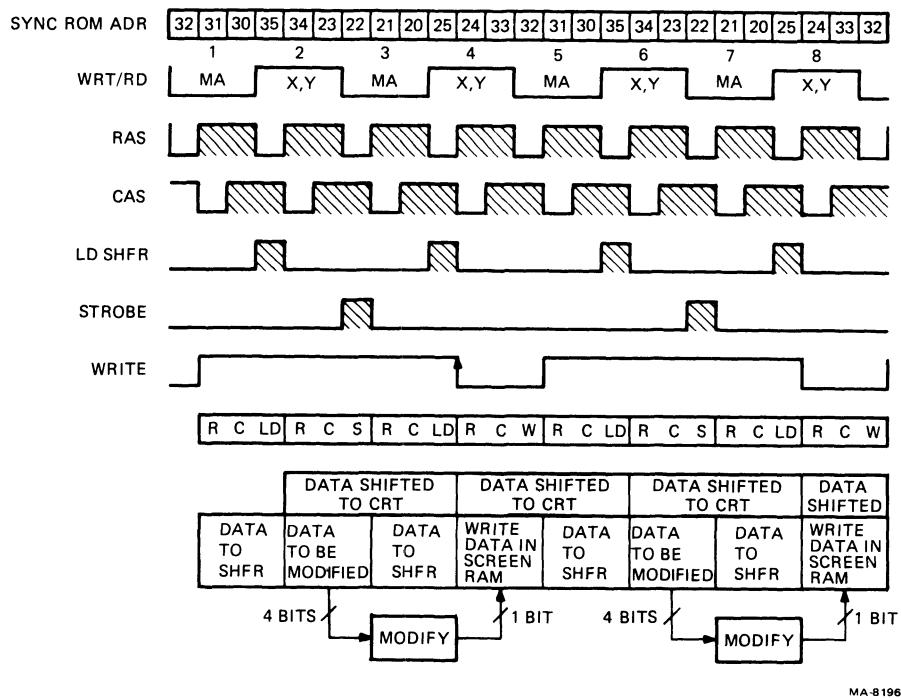
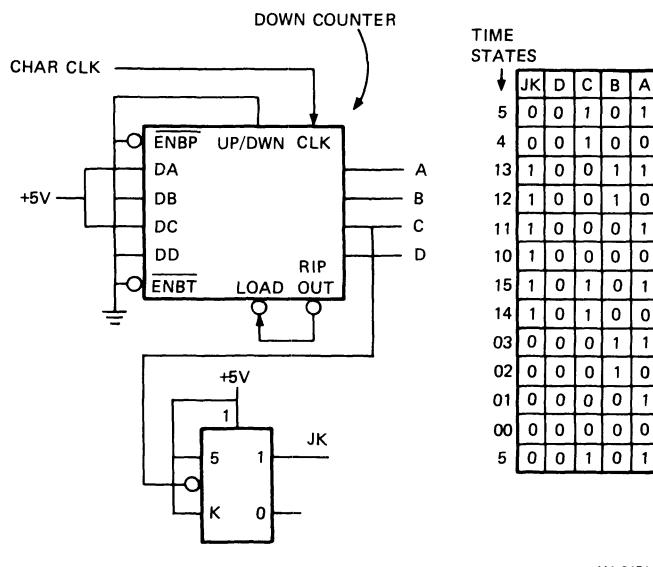

Figure 5-20 Screen RAM Data Timing
Figure 5-21 Time State Generator
5.2.2.4 Modify Screen RAM and CRT Refresh Timing -- The sync ROM in the vector generator runs continuously. Figure 5-20 shows the sync ROM addresses which are a function of the Time State Generator (Figure 5-21) and other bits. Twelve addresses are used before repeating the sequence again. The WRT/RD signal controls the screen RAM address multiplexer. If the WRT/RD signal is low, the address from the mA sequential counter passes through the screen RAM address multiplexer.